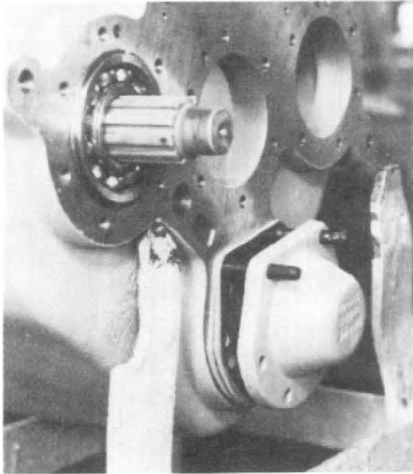

Fig. 17
6. Installation of gaskets, bearing carriers, seal carriers and caps will be simplified if two guide studs are utilized (See Fig. 17). Guide studs may be made by cutting the head off a $\frac{7}{16}$ -14 bolt of about 3 inches in length. Point the non-threaded end and also slot the end to allow a screwdriver to be used, if necessary, for guide removal.
- Temporarily install the rear output shaft front cover (See Fig. 17). Do not install shims. Tighten the mounting bolts to approximately 25 lb. ft. torque. Measure the gap between the rear output shaft front cover and the case housing with feeler gauges. Add .010 to this figure and then select a shim pack that is equal to this calculated figure or up to .005 larger. Install shim pack, Permatex threads of retaining bolts and tighten to the specified torque.